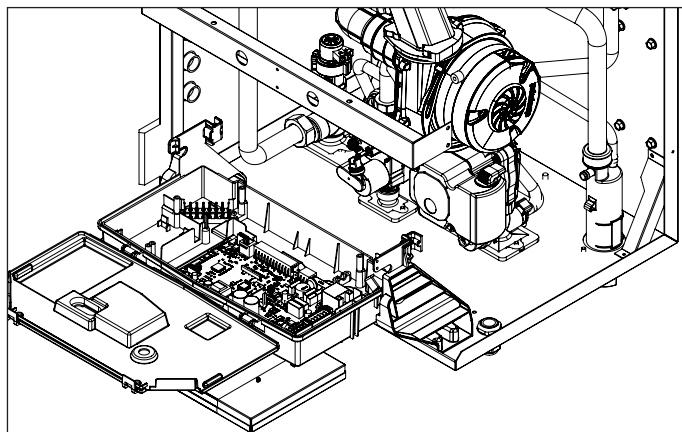

Figure 51 - Access to Low Voltage Wiring Connections
7. Open the control panel cover to have access to the main PCB. See Figure 51.